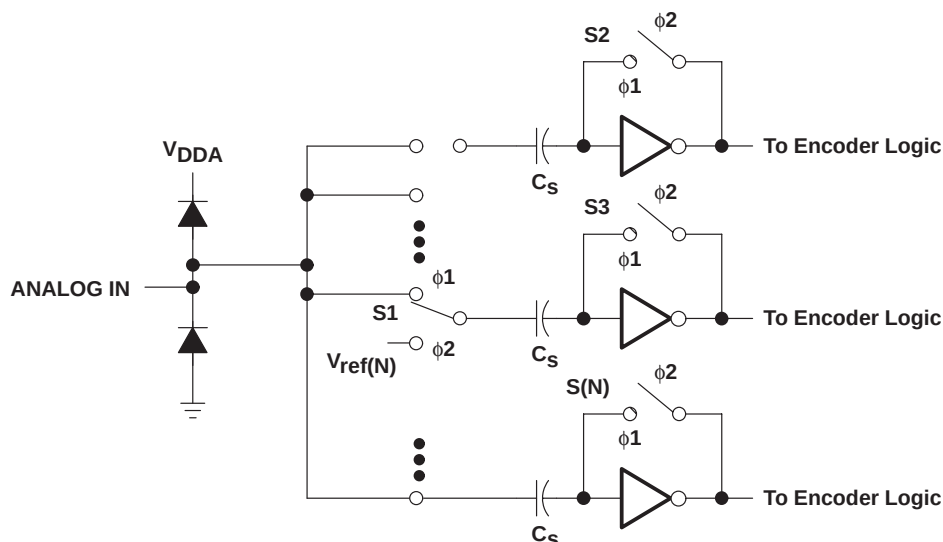

Figure 20. External Connections for Using the Internal Reference Resistor Divider
Figure 20 depicts the analog input for the TLV5510. The switches shown are controlled by two internal clocks, $\phi 1$ and $\phi 2$. These are nonoverlapping clocks that are generated from the CLK input. During the sampling period, $\phi 1$, S1 is closed and the input signal is applied to one side of the sampling capacitor, C_S . Also during the sampling period, S2 through S(N) are closed. This sets the comparator input to approximately 2.5 V. The delta voltage is developed across C_S . During the comparison phase, $\phi 2$, S1 is switched to the appropriate reference voltage for the bit value N, i.e., $V_{\text{ref}(N)}$. S2 is opened and $V_{\text{ref}(N)} - VC_S$ toggles the comparator output to the appropriate digital 1 or 0. The small resistance values for the switch, S1, and small value of the sampling capacitor combine to produce the wide analog input bandwidth of the TLV5510. The source impedance driving the analog input of the TLV5510 should be less than 100 Ω across the range of input frequency spectrum.